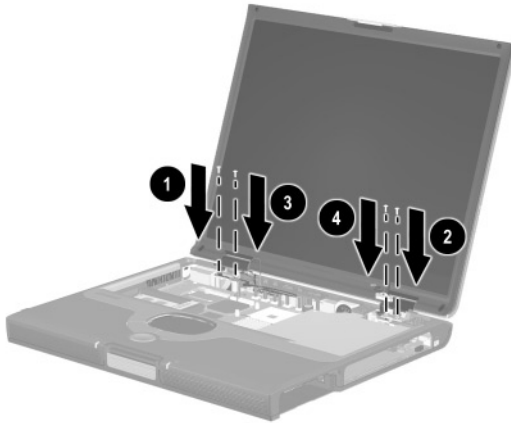

Figure 5-26. Installing the Display Screws
When installing the display, install the screws in the ❶, ❷, ❸, ❹ sequence shown in the Figure 5-26.